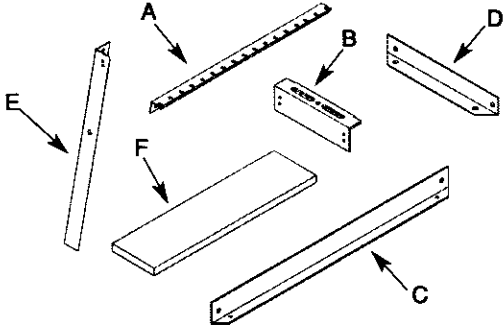

Figure 1 – Unpacking
- Check for completeness. Locate all parts before attempting assembly (see Figure 1).